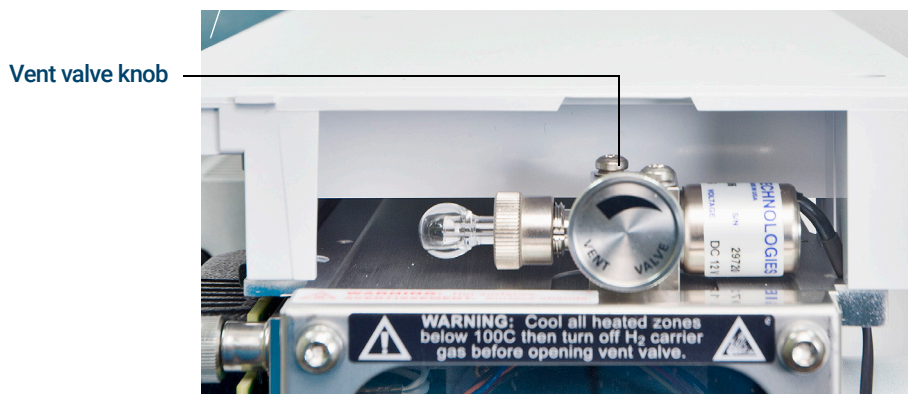

Figure 47 Vent valve knob
- 3 Verify that the vent valve is open by turning it clockwise until closed. (See Figure 47 on page 140.)
- 4 Open the vent valve by turning it counterclockwise 45 degrees. (See **Figure 47**.)
- 8 Close the vent valve when it makes a hissing sound. (See **Figure 47**.)